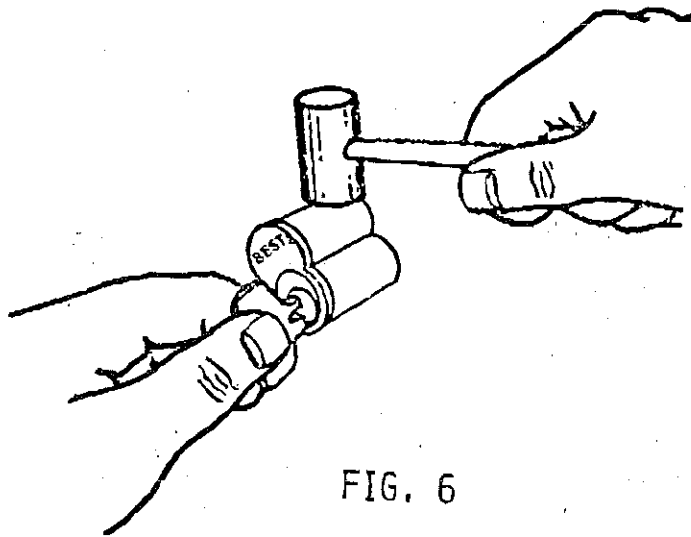

FIG. 6
- b. Insert a key, hold the key firmly, and gently tap the core counter-clockwise to the key, (fig. 6, page 6) until the burrs are smooth and the key works perfectly. (A wooden, leather, plastic or composition mallet is recommended for this work to avoid damage to the newly combined core.)